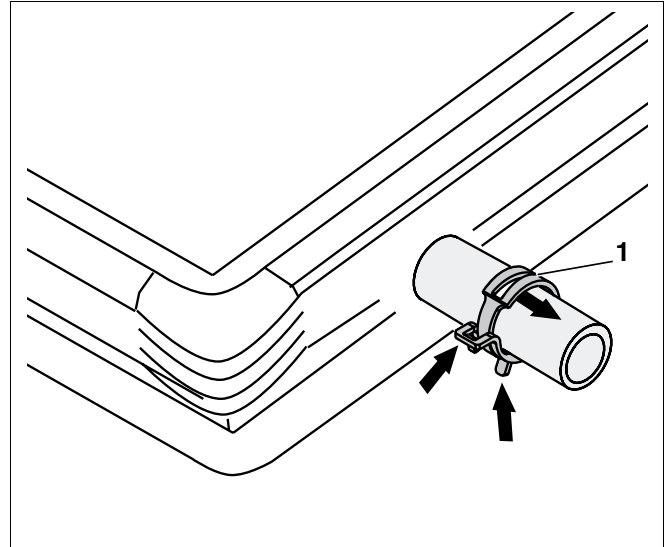

Fig.1 Removal – spring clips
- Release the spring clips (Fig. 1, **Item 1**) by pressing both tabs together (see arrows in Fig. 1) and remove the clips.